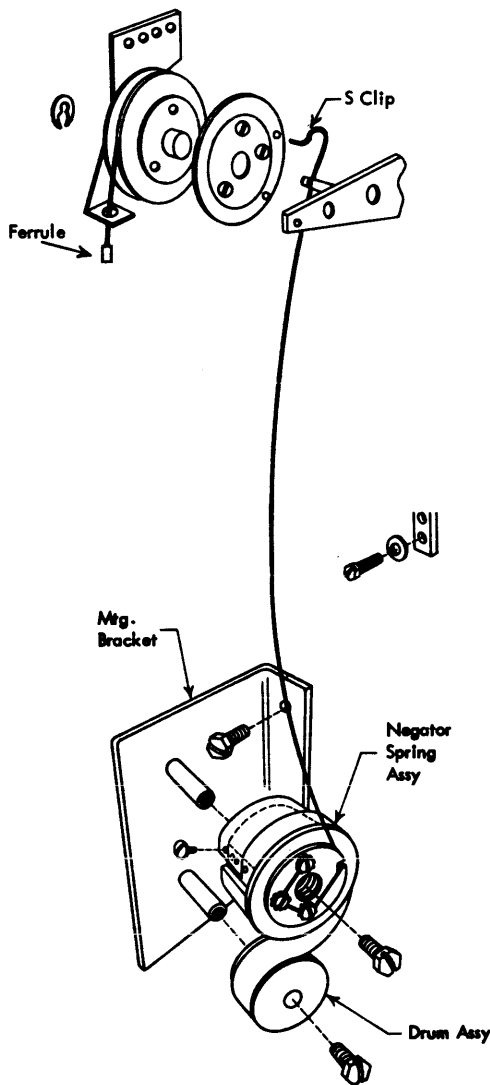

Figure 62. Sliding Drum Spring Drum Pulley Assembly
4. Loosen the three screws on the lower drum assembly (Figure 62).